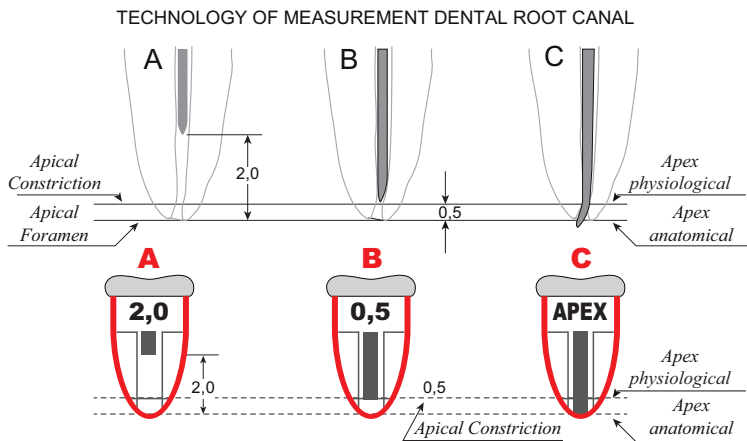

Figure 3
6. Slowly insert the endodontic file 9 into the canal. When the file approaches the distance 2,5–2,7 mm to the apical constriction, the display will show the moving file in the root canal model and relative digits. A slow beeping signal accompanies the read-out informing the approach to the apex (Fig. 3 A). Gently go on moving the file inwards and observing the distance on the display.
- When the file reaches the apical constriction (*apex physiological*) the read-out on the display is flashing 0,5, a fast beeping is produced and the file tip touches the flashing line in the root canal model (Fig. 3 B).
8. If the instrument penetrates the apex (apex anatomical) a continuous sound is produced and the notice “APEX” appears (Fig. 3 C). Lifting the file up one reaches the apical constriction again (Fig. 3 B) with a typical read-out 0,5 and interrupted sound.